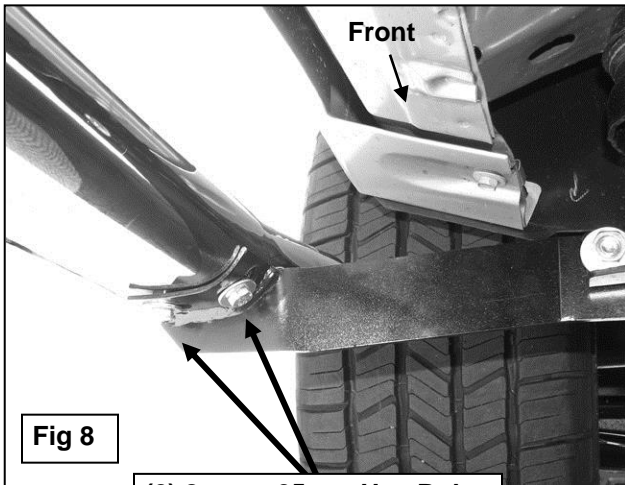

Fig 8
- Carefully position the Driver Sidebar onto the Mounting Brackets. Attach the Sidebar to the Mounting Brackets with (6) 8mm x 25mm Hex Bolts, (6) 8mm Lock Washers and (6) 8mm Flat Washers, (**Figure 8**). Do not tighten hardware at this time.